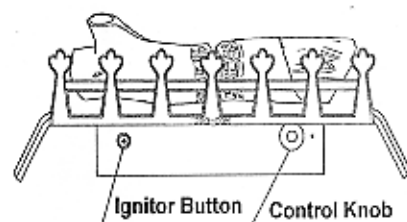

Figure 23-Control Knob and Ignitor Button Location
5. Slight depress and turn Control knob counterclockwise  to the PILOT position. Press in control knob for five (5) seconds (see Figure 23).